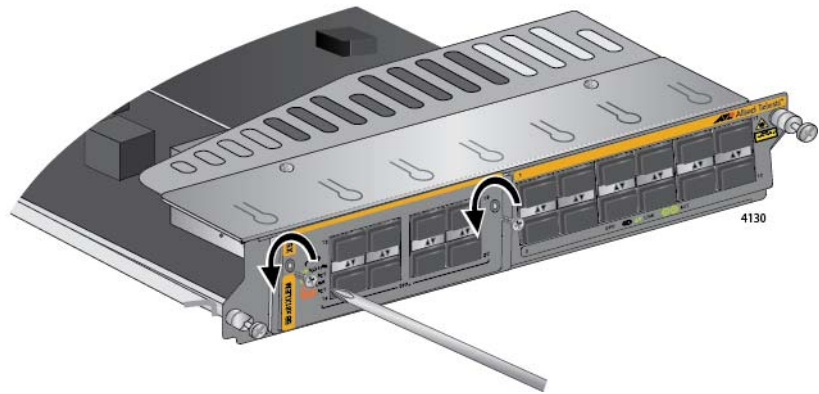

Figure 171. Removing the Screws from the Expansion Module
3. With a Phillips-head screwdriver, remove the two screws that secure the expansion module to the line card. Refer to Figure 171 on page 273.